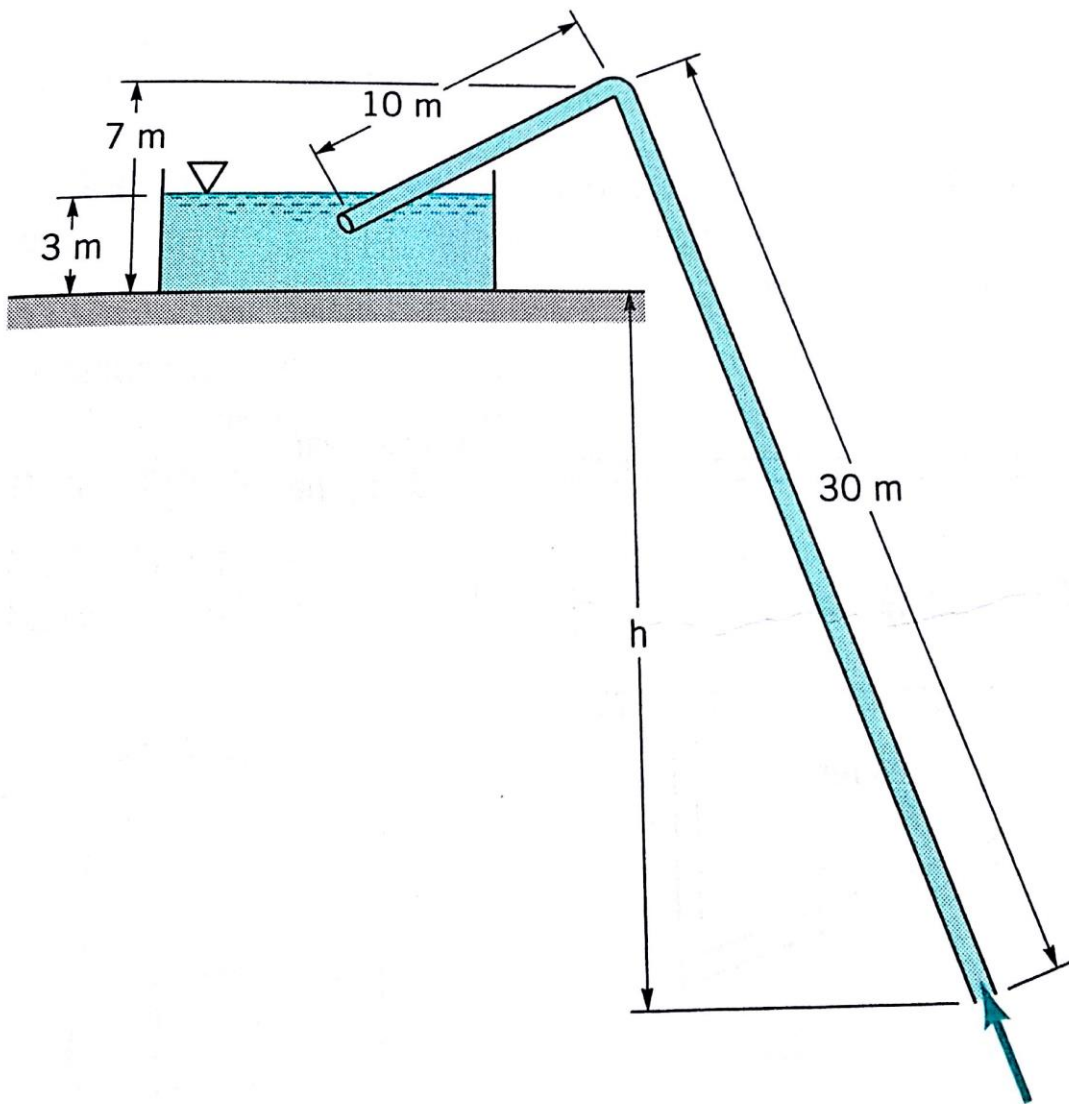

FIGURE P8.53
8.53 A 40-m-long, 12-mm-diameter pipe with a friction factor of 0.020 is used to siphon 30 °C water from a tank as shown in Fig. P8.53. Determine the maximum value of h allowed if there is to be no cavitation within the hose. Neglect minor losses.